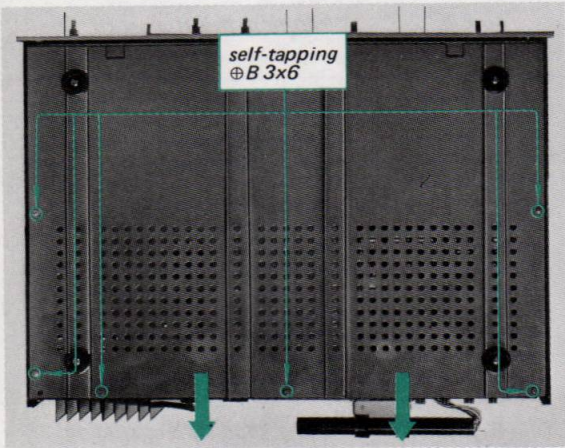

Fig. 2-2. Bottom plate removal
2. Remove the six self-tapping screws (⊕B 3x6) at the bottom of the receiver and pull the bottom plate in the direction indicated by the arrow in Fig. 2-2.